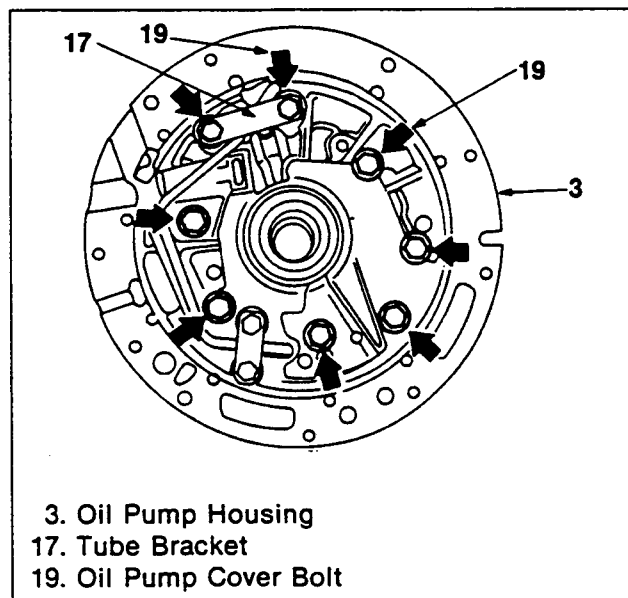

Figure 76. Oil Pump Cover Installation (3)
3. Install the oil pump cover to the oil pump housing with locating pin matched (figure 76).
4. Tighten cover side bolts (8 pcs) together with the tube bracket (figure 76).